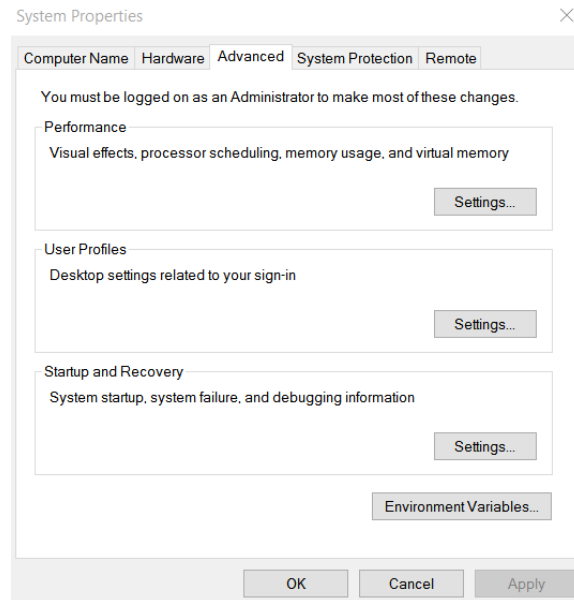

Figure 1: System Properties Dialog Box
- Go to “System Properties” by searching your computer for “sysdm.cpl”. Select the “Advanced” tab in the System Properties dialog box as shown in Figure 1.